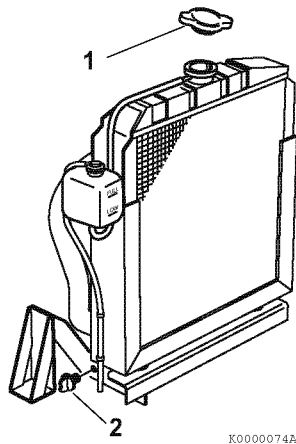

Figure 5-16
2. Remove the radiator cap (1, **Figure 5-16**).
3. Remove the drain plug or open the drain cock (2, **Figure 5-16**) at the lower position of the radiator and drain the engine coolant.